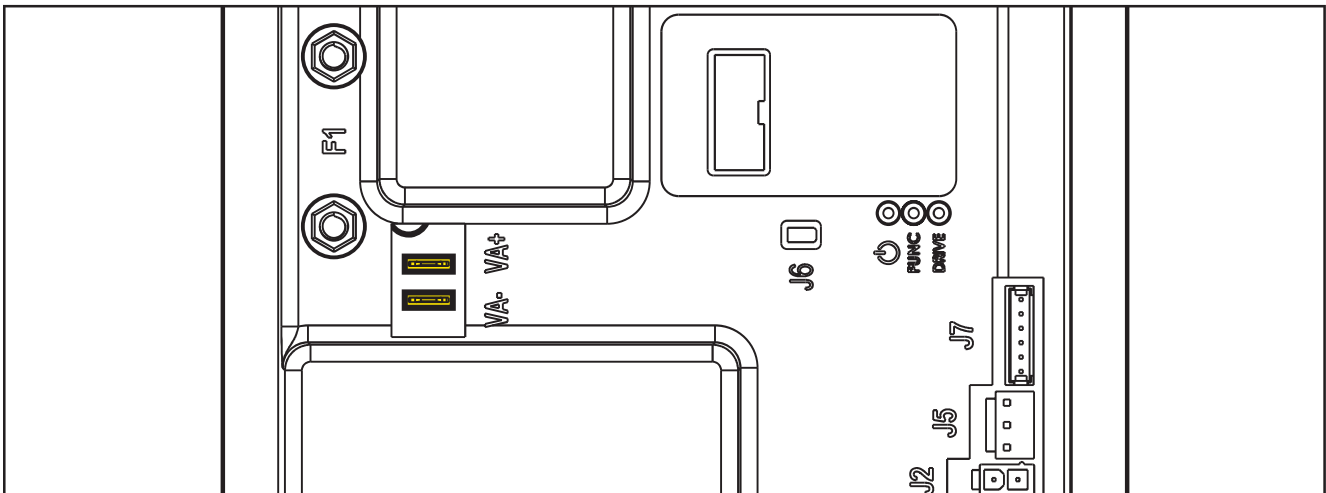

Figure 21:
**(Figure 21) Vacuum connections (2-way male parallel faston connectors, 6.3x0.8 – spacing 6.5mm)**